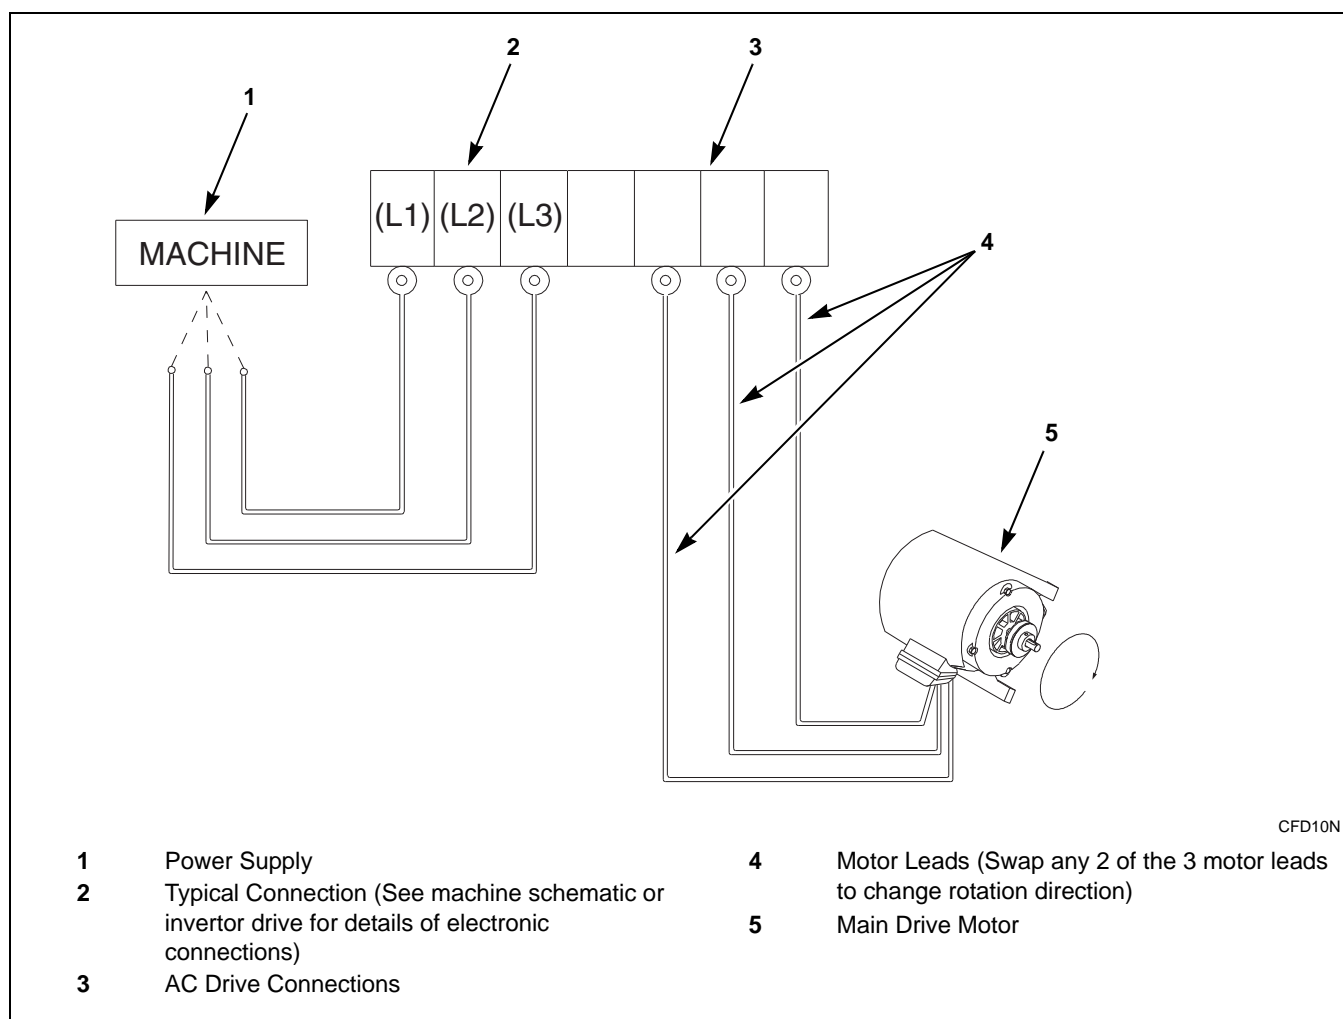

Figure 42
8. Cylinder rotation must be clockwise in an extract step for all models. If rotation is not correct, disconnect power. A qualified electrician must reverse any two leads between the AC drive and the main drive motor. Refer to *Figure 42*.